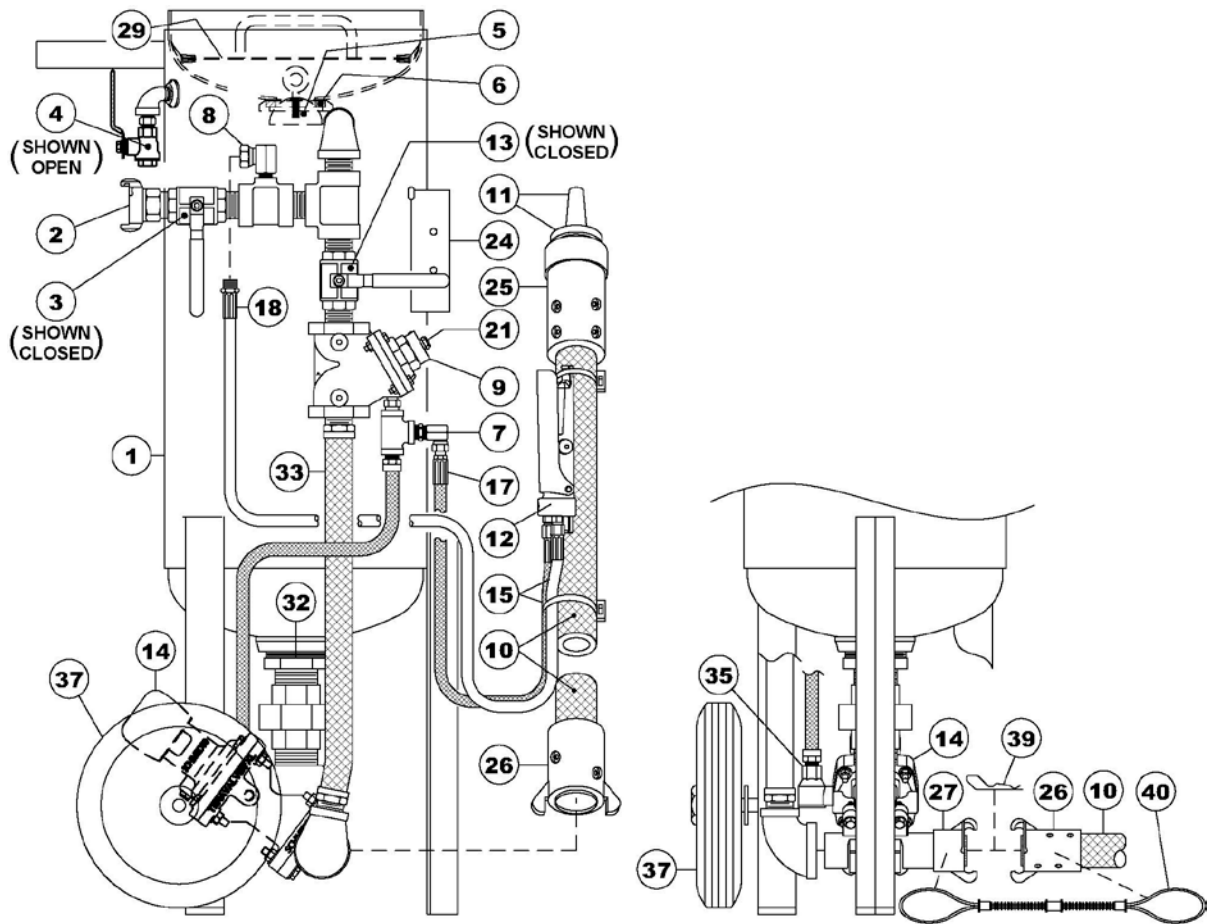

Figure 8.2 – Mini Abrasive Blaster with pneumatic blast controls
- 8.11. **Blowdown Ball Valve:** The blowdown ball valve (#4) is used to depressurize the abrasive blaster pressure vessel (#1). See Figure 8.2. The blowdown air flow can carry abrasive from inside the pressure vessel which can wear the blowdown ball valve (#4) and piping. This wear will cause the blowdown ball valve (#4) to be difficult to open and/or close, and/or result in the inability to close properly (air leaks), and/or wear of the attaching pipe fittings. If and when any of these conditions develop they will be noticeable during daily blowdown operation. When any malfunction is detected the blowdown ball valve (#4) and attaching fittings should be replaced.
Note: Once maintenance is completed as detailed below and the abrasive blaster is re-pressurized confirm there is no air leakage when the blowdown ball valve (#4) is closed. The ball valve is closed when the handle is fully turned to the position shown in Figure 8.2 (handle perpendicular to body). When any malfunction is detected the blowdown ball valve (#4) and attaching fittings should be replaced.